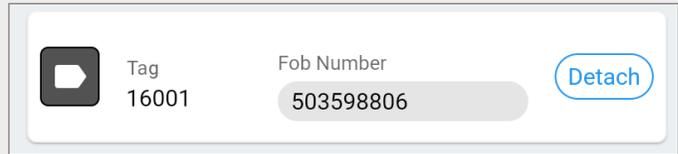

Fig. 171 – Asset details screen – fob labeling
2. Select the **Fob Number** bubble to open the **Fob Overview** screen, as shown in Fig. 171.